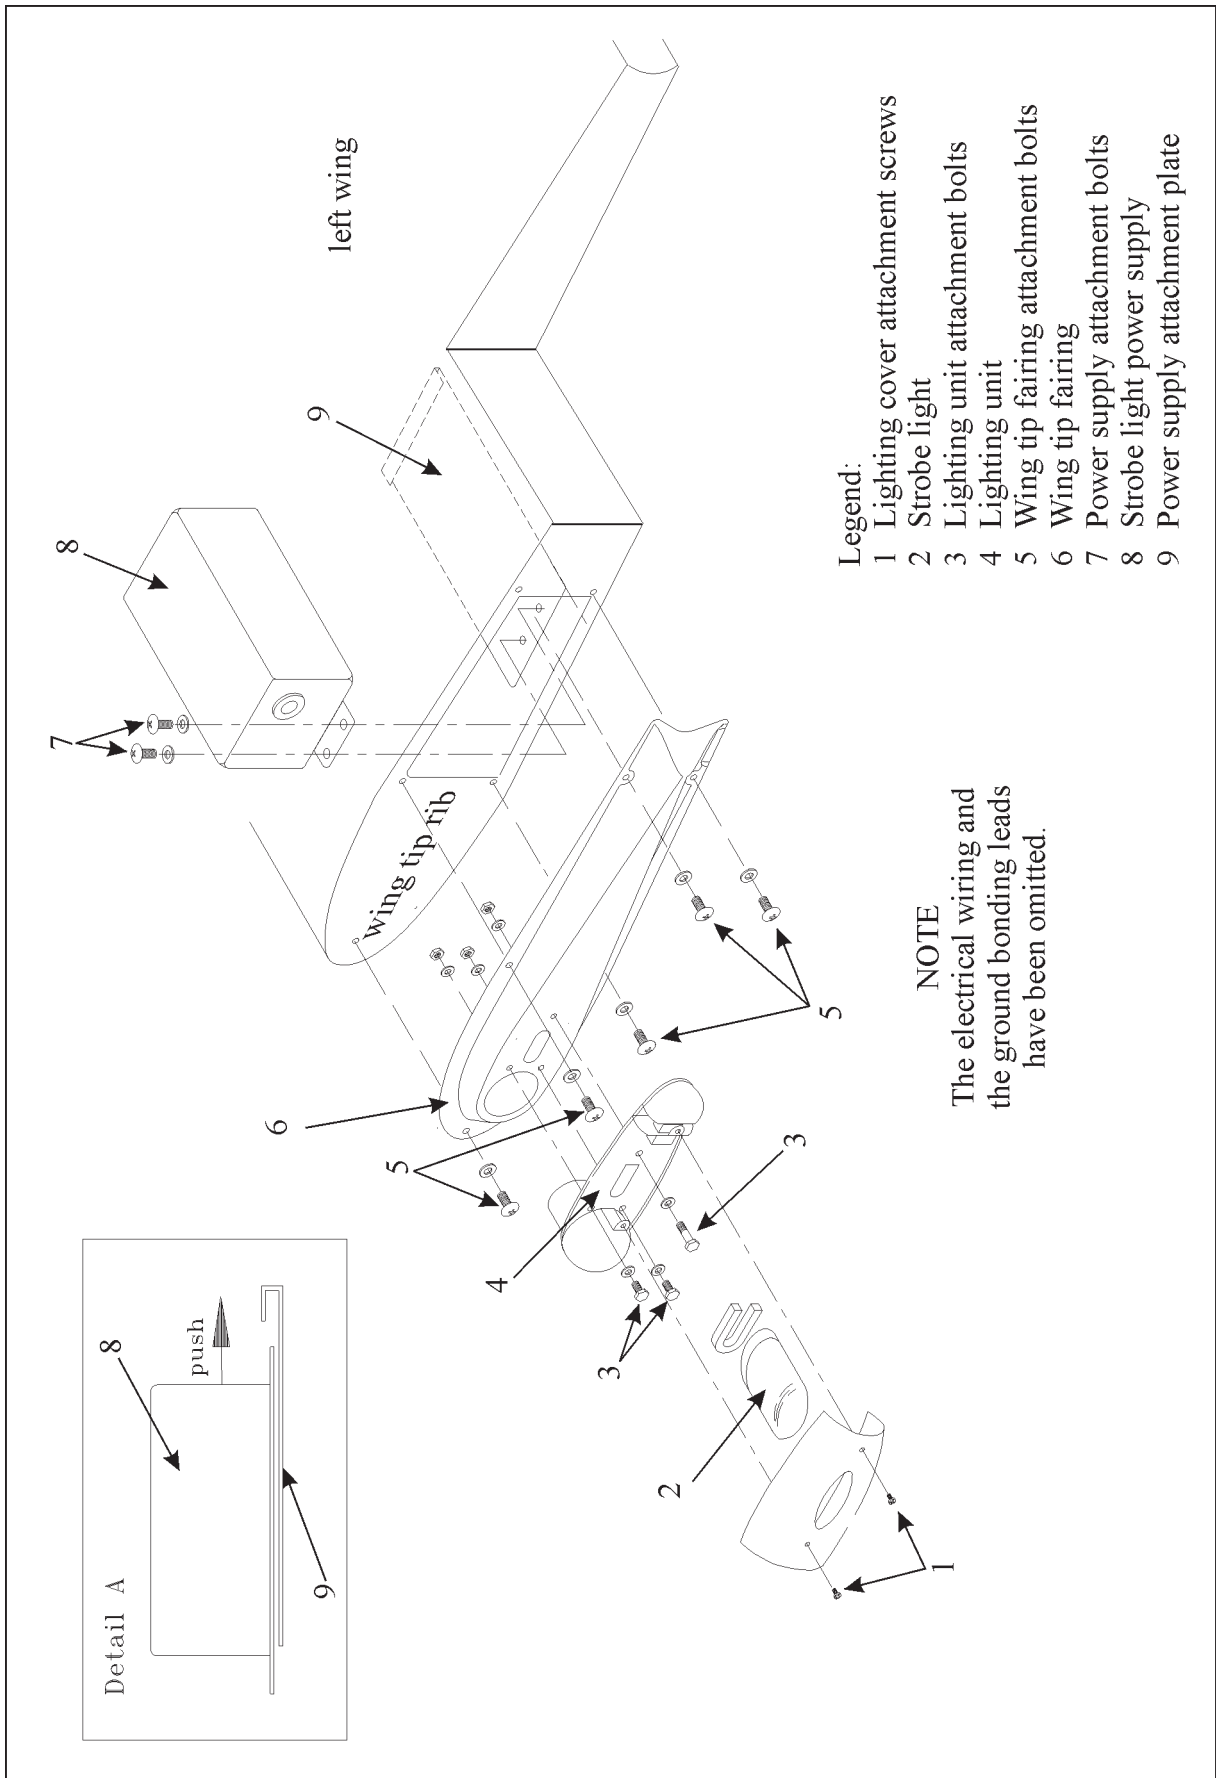

Figure 1 Navigation/Strobe Lights Removal/Installation
Refer to Figure 1. The lighting units (4) installed at the wing tips incorporate the red or green navigation LED lights on the forward section, a strobe light in the center and a clear tail position LED light on the aft section. They are mounted at the wing tip fairing (6). The strobe light power supplies (8) are mounted on special attachment plates (9) inside the wing.
Refer to figure 1.
Refer to Figure 1.
- 5 Install in reverse sequence of removal observing Detail A of figure 1 when attaching the power supply on the attachment plate (9).